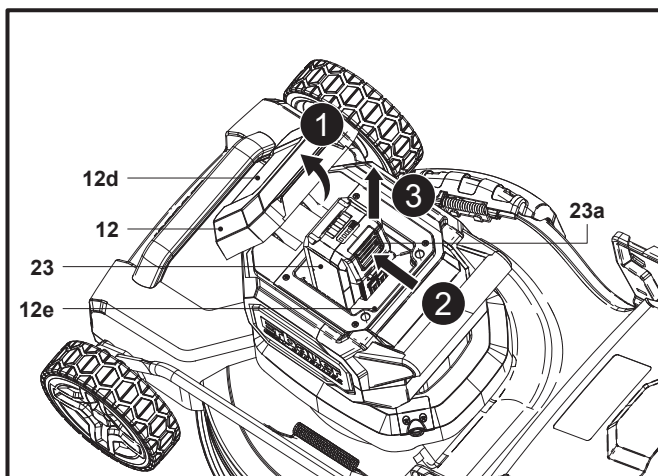

Fig. 8
1. Hold the lip (12d) and open the battery compartment cover (12) (Fig. 8, step 1).
2. Press down the release button (23a) to unlock the latch of battery pack (23) (Fig. 8, step 2).
3. Slide out the battery pack (23) from the battery compartment (12e) (Fig. 8, step 3).
4. Close the battery compartment cover (12).